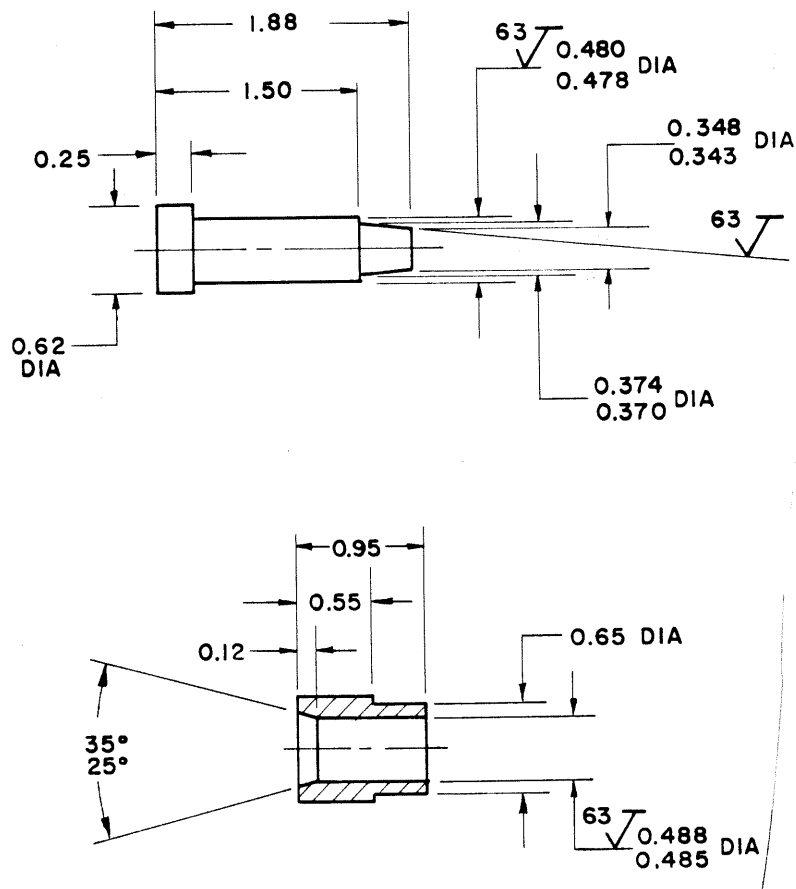

Figure 5. 2550975 Installation Tool (Locally Manufactured or Purchased from Bendix)
- a. Remove pusher of 2550975 installation tool. (Reference figure 5). See figure 7.